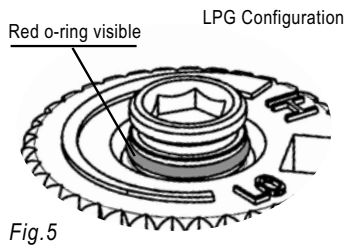

Fig.5
- 19) If the conversion is from NG to LPG, the screw must be re-assembled with the red o-ring visible (Fig. 5).